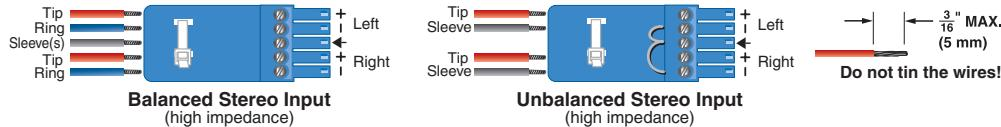

Figure 5. Audio Input Captive Screw Connector Wiring
G Channel A analog audio input — Connect a balanced or unbalanced stereo line level audio device to this 5-pole, 3.5 mm captive screw port. Channel A audio can be selected for output with HDMI inputs 1 and 2 instead of the embedded audio. Wire the connector as shown in figure 5.
- K Channel B analog and 3G-SDI audio input** — Connect a balanced or unbalanced stereo line level audio device to this 5-pole, 3.5 mm captive screw port. Channel B audio can be selected from either the HDMI embedded audio, Ch B analog audio, or the audio can be set to Off. Wire the connector as shown in figure 5.